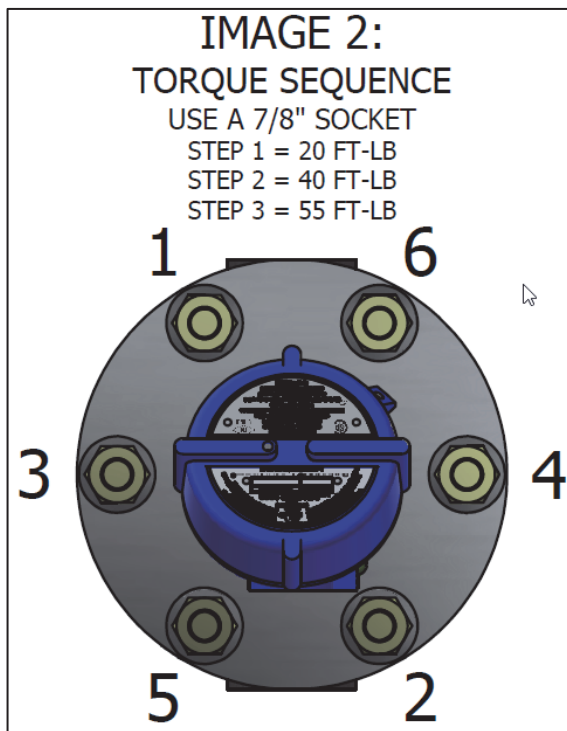

Figure 4
12. Lubricate the threads on the bolts with a high temperature anti-seize. Torque the bolting according to Figure 4 waiting 1-minute between torques.